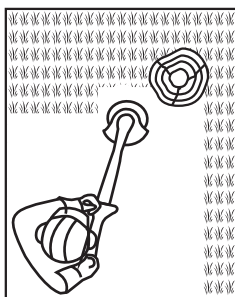

Fig. 13
4. Rotate the plant protector (11) to trimming position to avoid bringing the cutting device into contact with hard objects such as walls and kerbstones (Figs. 13, 14).